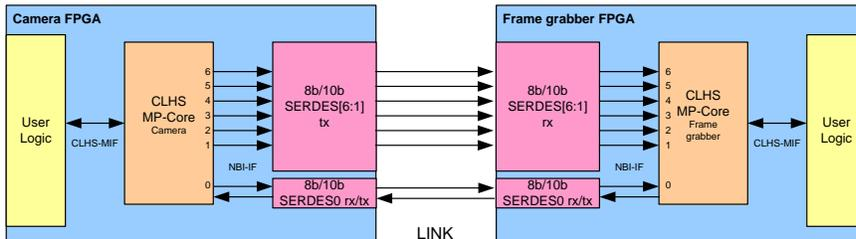

Figure 1: Typical Camera Link HS M-Protocol C2, 7M1 system architecture
Figure 1 shows a typical Camera Link HS C2, 7M1 M-Protocol (MP) system architecture. This system includes a camera, a frame grabber and a link that based on a standard CX4 cable which provides 1 full-duplex command channel on lane 0 and 6 extra data lanes for a total video bandwidth of 2.1GB/s.